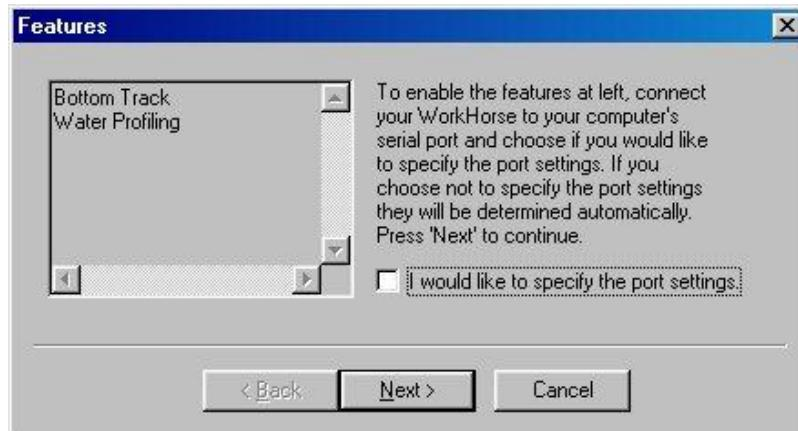

Figure 27. Installing Feature Upgrades
- d. In the **Open** box, type A:xxx.exe, where xxx is the ADCP's CPU serial number. The installation program will start (see Figure 27). The program is encoded with the ADCP's serial number and the requested feature upgrade.